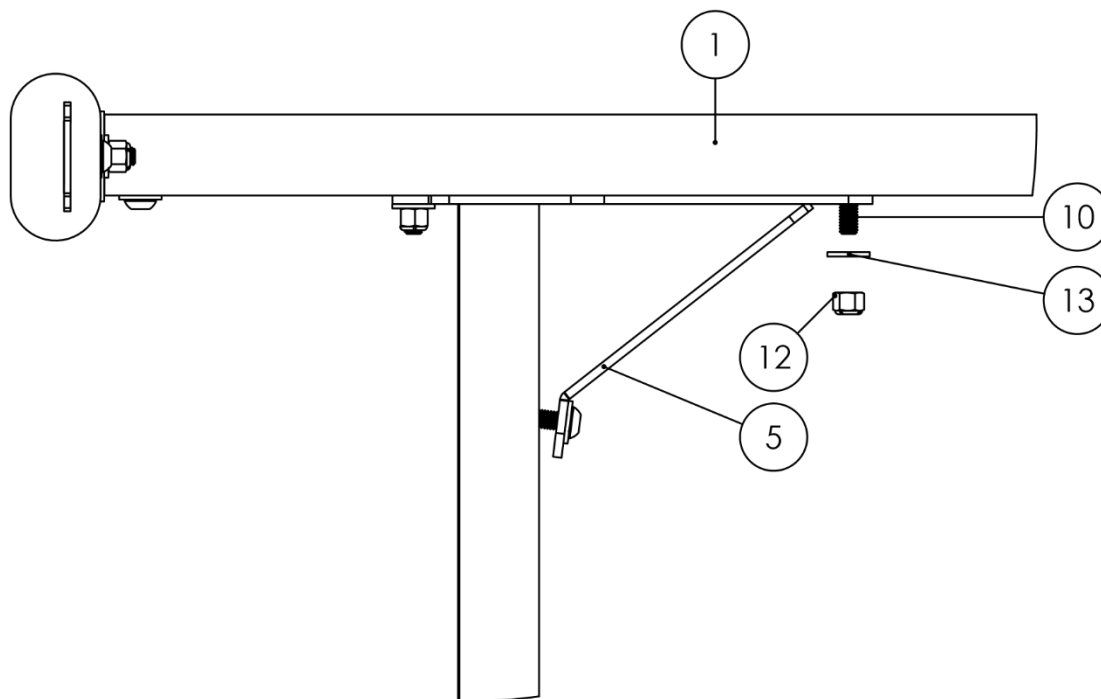

Figure 14
- Install the Crossbars onto the Legs.** To install the newly formed Crossbar (Item No. 1) and Side Rail (Item No. 2) assembly, hold it above the Legs (Item No. 4) so that the ends of the Carriage Bolts (Item No. 10) hang down and align with the holes on the Crossbar Gusset Assembly (Item No. 5). Using a Metal Washer (Item No. 13) and a Nylon Lock Nut (Item No. 12) secure each Leg and Crossbar. Figure 14 shows the bolt assembly as it is required.